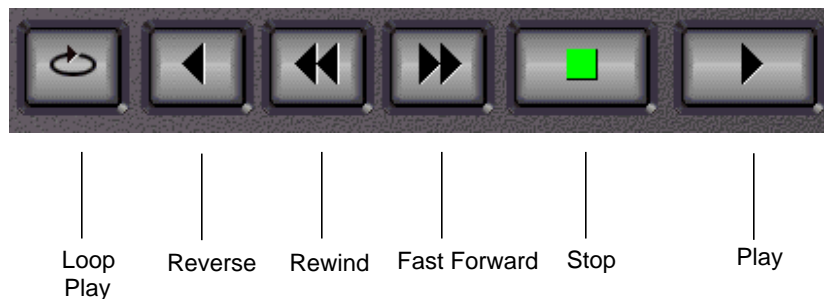

Figure 127. Transport controls
5. When you are done recording, click on the **Stop** button. (See Figure 127)